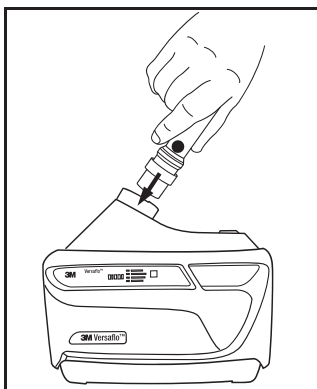

Fig. 15-1 Attaching airflow indicator
- Insert the TR-971 into the outlet of the TR-600 motor/blower unit. If the breathing tube is in place, it must be removed to allow the airflow indicator to be inserted (Fig. 15-1).